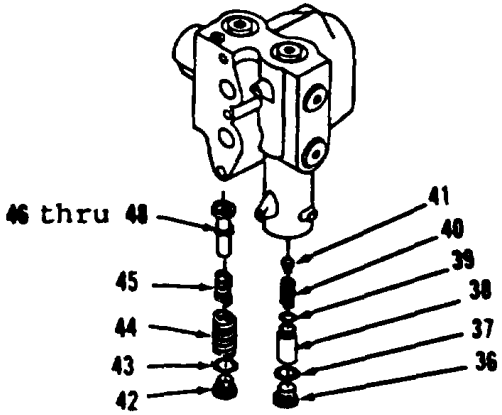

Figure 8-24.
8. Install items 48 thru 46 as an assembly, springs (45 and 44), new preformed packing (43) and plug (42, Figure 8-24).
9. Install valve (41), spring (40), shim (39), retainer (38), new preformed packing (37) and plug (36).